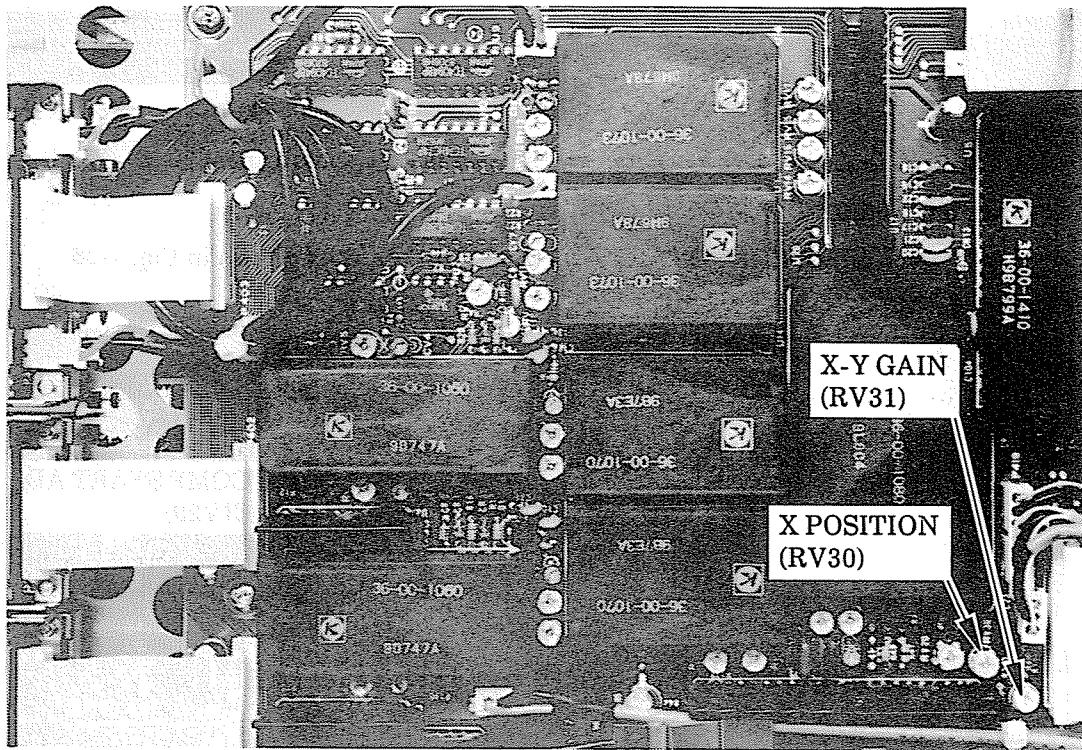

Fig. 4-29 Adjustment positions of X POSITION (RV30), and X-Y GAIN (RV31)
- (1) Perform initial setting in accordance with Table 4-3.
- (2) Accurately align the trace of CH1 with the center of the CRT screen.
- (3) Set "HORIZ MODE" to "X-Y".
- (4) Confirm that the bright spot is within  $\pm 1$  DIV from the center of the CRT screen. If it is not, adjust X POSITION (RV30) on board A4 shown in Fig. 4-29.
- (2) Set the "HORIZ MODE" switch at X-Y mode.
- (3) Apply a 50mVpp calibration signal output to the CH1 input, and confirm that the amplitude in the horizontal direction is within  $5 \text{ DIV} \pm 0.1 \text{ DIV}$ . If it is not, adjust X-Y GAIN (RV31) on board A4 shown in Fig. 4-29.